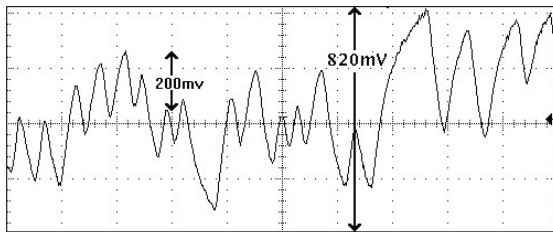

Figure 10
It is obvious that another decade increase would not be good. Since the signal is attenuated as the frequency increases, the upper harmonics of our signal disappear, and our squarewave data signal starts to look more like a sinewave. Additionally, with all the low frequency (DC) energy still available our squarewave starts to look like figure 10.